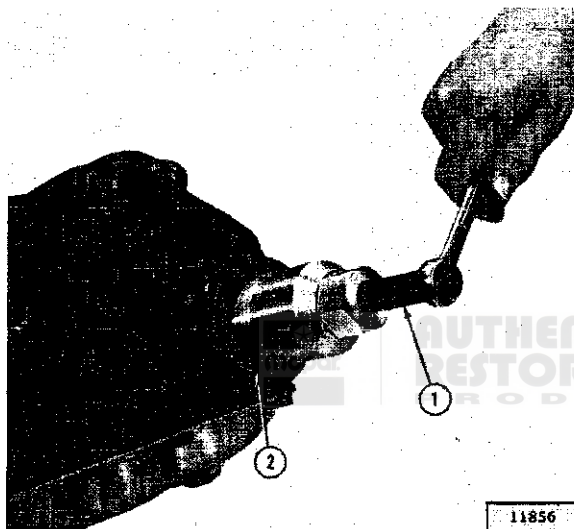
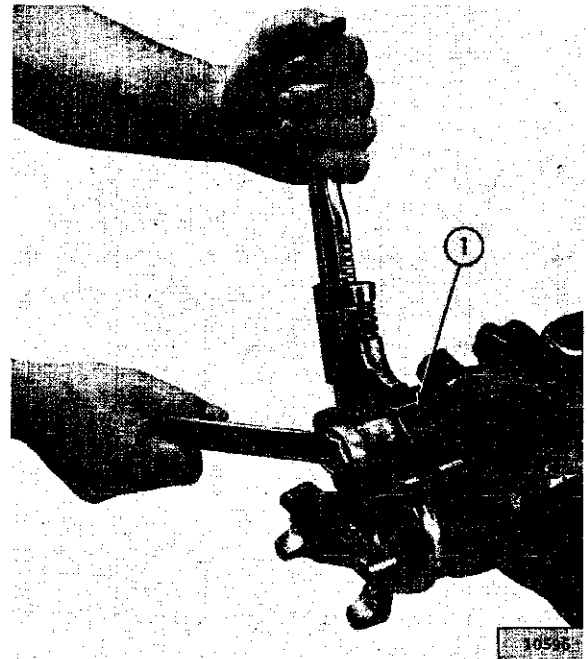

FIG. K-7—PULLING OUTPUT SHAFT OIL SEAL
FIG. K-8—SHIFT ROD OIL SEAL PULLER
b. Remove yoke oil seal with Tool W-251, as shown in Fig. K-7. Remove shift rod oil seals with Tool W-176, as shown in Fig. K-8.
b. Remove the oil seal with Tool W-251, as shown in Fig. K-7.